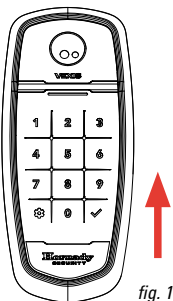

fig. 1
1. Remove VEXIS™ keypad from safe or vault door by sliding upward (Figure 1).